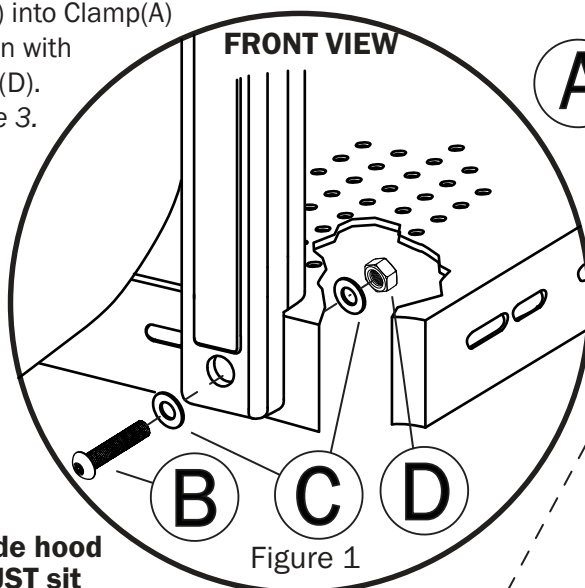

Figure 1
1. Working on ground, insert shaft of Tube Clamp(A) onto tube of Barrier-Right(C) and tighten securely with Bolt(D) and Lock Washer(E). See *Figure 1*.
2. Place Tube Clamp(A) against Upright. Insert (2)Bolts(D) into Clamp(A) and secure with (2)Lock Nuts(F). See *Figure 1*.
1. Align slots in Handrail-Right(A) with slots of Barrier. See Figure 1.
2. Insert Bolt(C) and Flat Washer(D) into slots in Handrail(A) and into slots in Barrier and secure with Flat Washer(D) and Lock Nut(E). See Figure 1.
1. Insert Bolts(D), Lock Washers(E) and Flat Washers(F) into slot in Mounting Bracket(B) into holes in underside of Slide(A) and tighten. See Figure 1.
1. Align slots in Deck with (3) lower holes on back of Straight Slide.
2. From underside of Deck, insert Bolt(A), Lock Washer(B) and Flat Washer(C) into center slot in Deck and lightly tighten. See *Figure 1*.
3. Repeat steps 1 and 2 for the remaining (2) Bolts(A).
4. Tighten Bolts(A) securely.
1. From front side of Slide Hood, insert Bolt(B) and Flat Washer(C) into Slide Hood, through deck and secure with Flat Washer(C) and Lock Nut(D). See Figure 1.
1. Drill 1/4" (7mm) hole into Uprights(A) through pre-drilled hole in Clamps(B). See Figure 1.